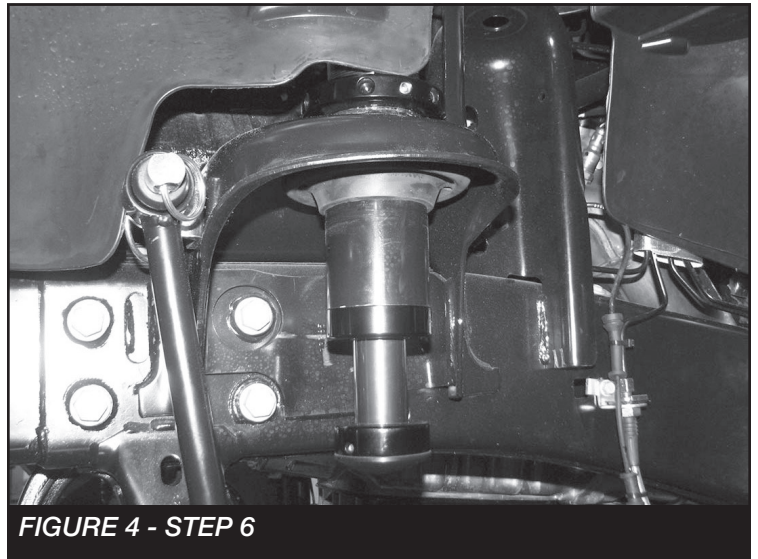

FIGURE 4 - STEP 6
6. Insert the new Fabtech bumpstop into the factory location until it stops, Install the threaded collar onto the bumpstop. Once tighten, use a 5/16" allen wrench to lock the collar in place. **SEE FIGURE 4**